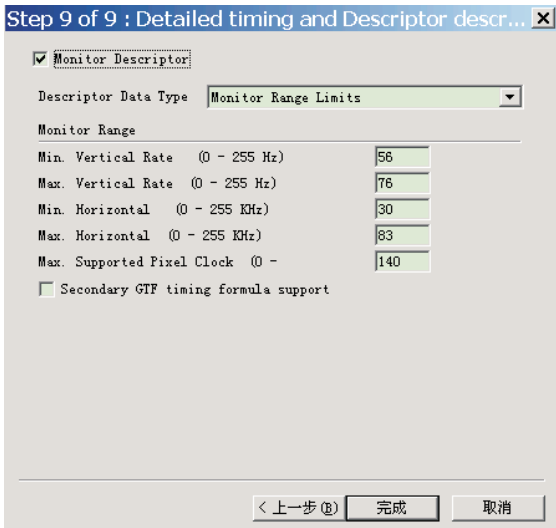

Fig. 22
8. Click Next , bring up Fig. 22, then click "finish".